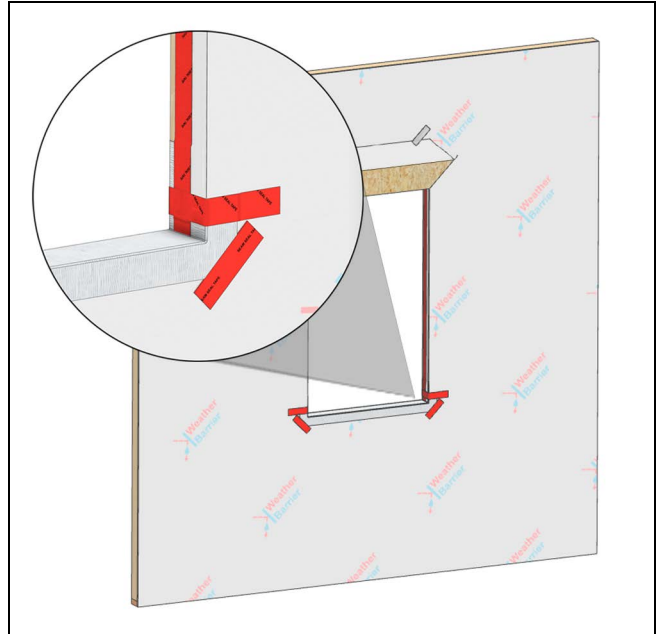

Figure 20
5. Apply seam seal tape over the corners. Place plastic or composite shims at the ends and in the middle of the RO to counter the slope of the sill wedge and support the unit. Fasten with adhesive or finish nails. If using finish nails, place adhesive under shim where the nail will penetrate. See Figure 20.